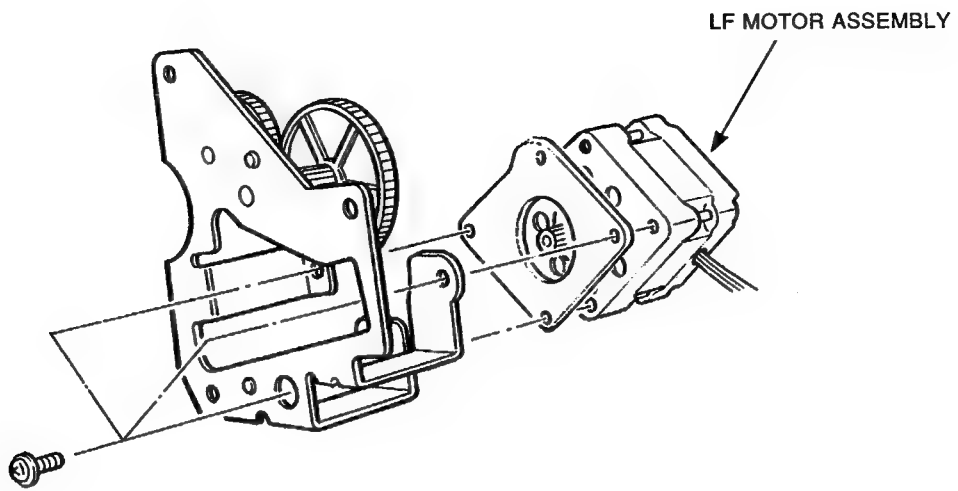

Figure 3-54 LF Motor Assembly
4. Remove the three screws securing the LF motor assembly to the LF motor bracket (see Figure 3-54).